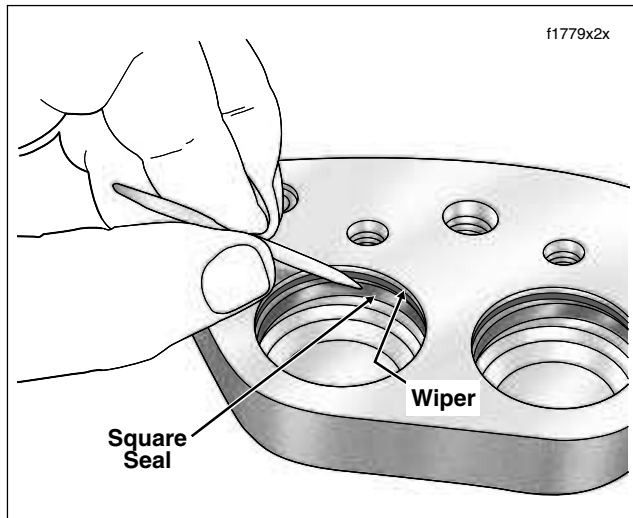

Figure 2-70. Remove Wipers and Square Seals From Piston Bores
8. Using a wooden toothpick, remove wiper and square seal from each piston bore. Discard wipers and seals. See Figure 2-70.